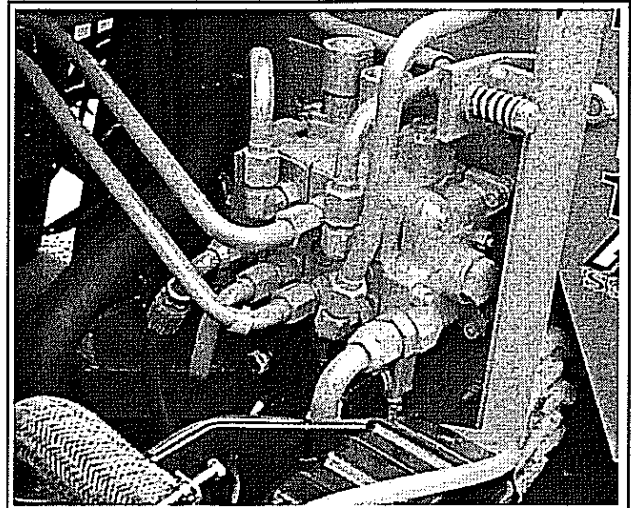

Fig 1.3.4a
4. Disconnect the line between the hydraulic gear pump outlet and the control valve inlet. (Fig. 1.3.4a).